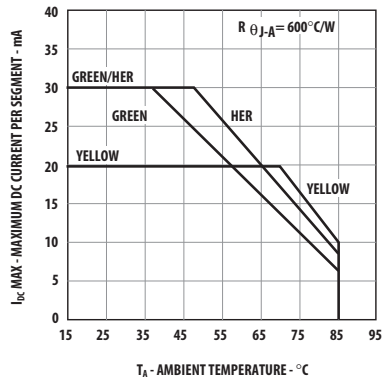

Figure 9. Maximum Allowable DC Current vs. Ambient Temperature. $T_{JMAX} = 100^{\circ}\text{C}$.
6. Derate maximum DC current for HER above $T_A = 48^\circ\text{C}$ at 0.58 mA/ $^\circ\text{C}$, Yellow above $T_A = 70^\circ\text{C}$ at 0.66 mA/ $^\circ\text{C}$, and Green above $T_A = 37^\circ\text{C}$ at 0.48 mA/ $^\circ\text{C}$. See Figure 9.